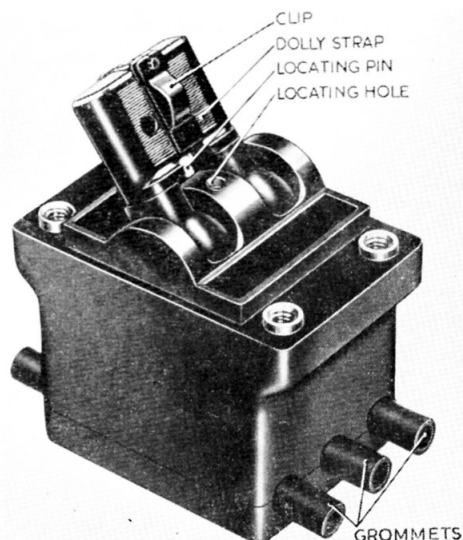
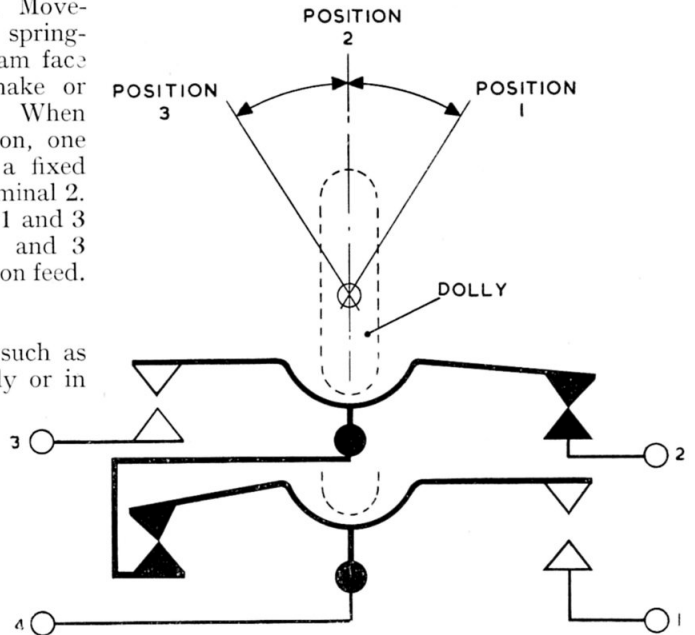

Fig. 2. Type 8B, No. 3 switch
Fig. 3. Operation circuit diagram
5. The switch, Type 8B, No. 3 (*fig. 2*) is constructed as described in para. 2 and 3 but has, in addition, a locking device which locks the dollies in the central position (*fig. 2*). Locking is achieved by a clip on the dolly strap, which carries a locating pin at its lower end. The pin and clip are loaded by a spring housed within the clip, and the latter is able to slide up and down within recesses formed in the moulded dolly strap. When the dollies are in the central position, the locating pin enters a hole (position 2) drilled into the raised section of the body moulding and it is necessary to break this alignment, by lifting the clip, to obtain either position 1 or 3 (*fig. 3*).